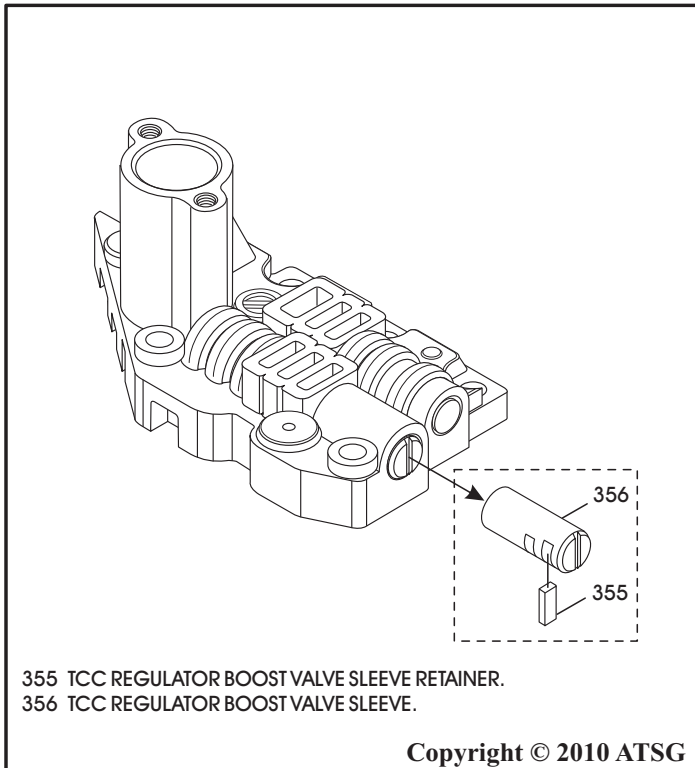

Figure 160
30. The TCC regulator boost valve sleeve has a slot for the retainer on only one side of the sleeve, as shown in Figure 160, and must be rotated to the proper position to accept the retainer.